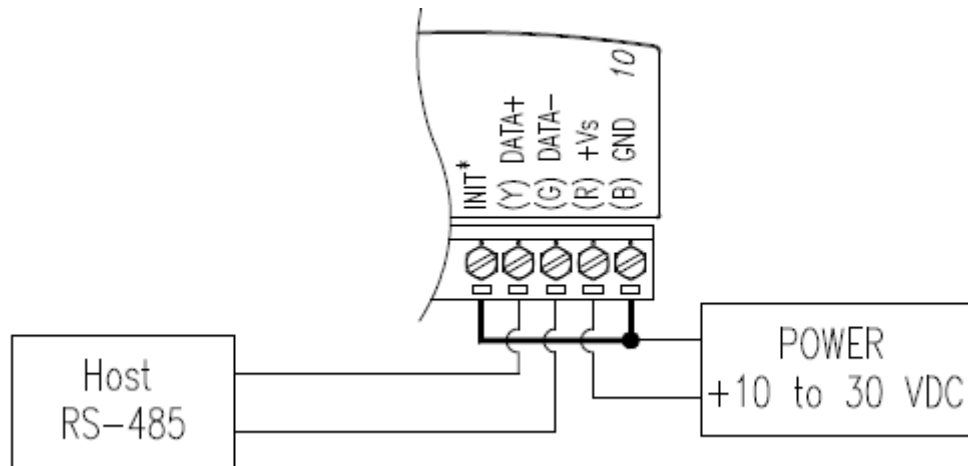
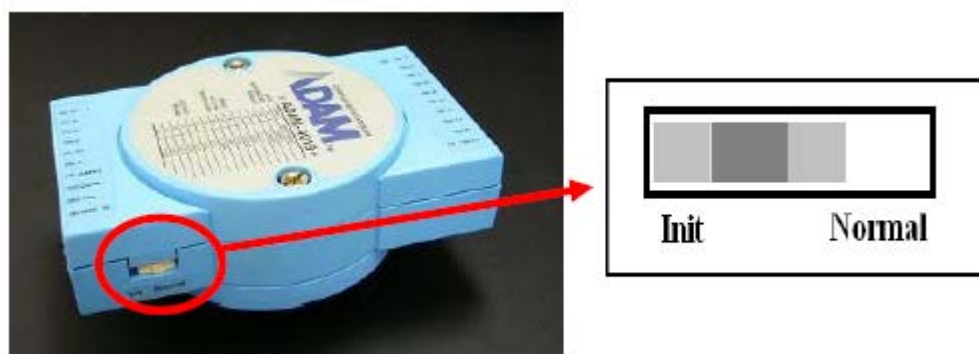

Figure 2.3 Grounding the INIT* Terminal
Figure 2.4 Set INIT switch to “Init”
Since there is no visual indication of a module's configuration status, it is impossible to know the baud rate, address and other settings just by looking at it. It might not be possible to establish communications with a module whose baud rate and address are unknown. To overcome this problem, most modules have an input terminal labeled INIT*. Booting the module while connecting the INIT* terminal with the module's GND terminal forces the configuration into a known state called the INIT* state. Besides, some newer modules have an INIT switch which you can set to "Init" or "Normal" (See Figure 2.4). If you set the switch to "Init", then it will be in the INIT* state.
- Power the ADAM module on while shorting the INIT* and GND terminals (See Figure 2.3) or set the INIT switch to “Init” (See Figure 2-4)